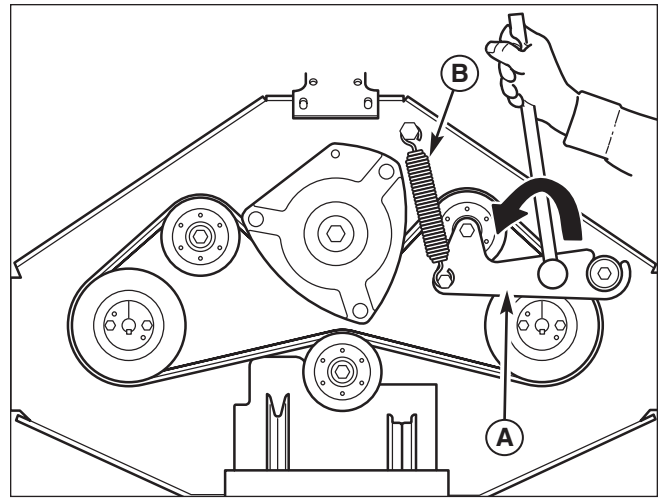

Figure 49. Pump Belt Removal & Replacement
3. Using a 1/2" breaker bar, place the square end in the square hole located in the middle of the idler arm (A, Figures 49). Carefully rotate the breaker bar COUNTER-CLOCKWISE, which will relieve the tension on the belts exerted from the idler arm.
6. Unhook the spring (B) from the anchor bolt on the idler arm.
4. Carefully rotate the idler arm with the breaker bar counter-clockwise (see Figure 49). While holding the breaker bar firmly, install the belts in the left-hand pump pulley grooves and the two stationary idler pulleys grooves.